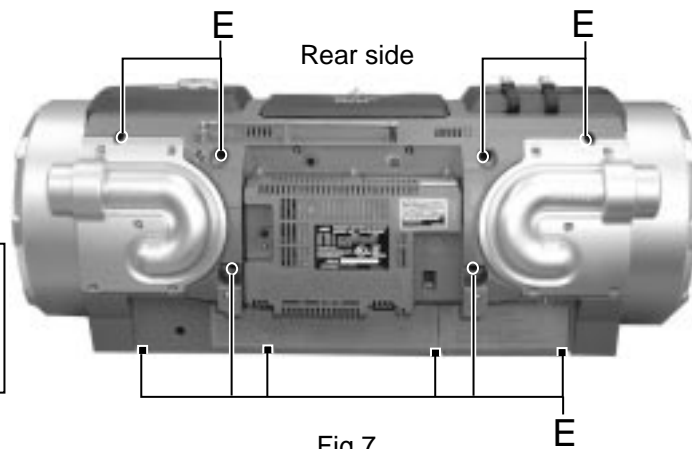

Fig.7
■ **Removing the front cabinet and the rear cabinet (See Fig.7 and 8)**